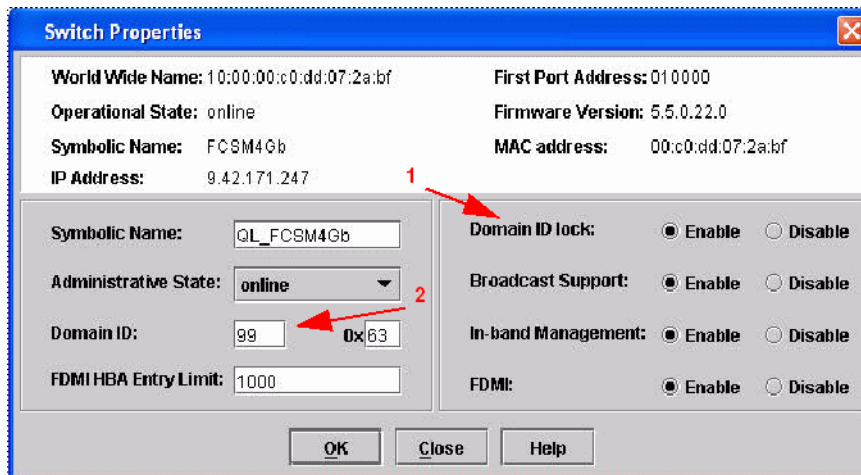

Figure 7-46 Switch Properties window
- From the Switch Properties dialog (Figure 7-46), enter a symbolic name for your switch. Click the **Enable** radio button next to Domain ID lock (1). Enter a Unique Domain ID ranging from 97-127 (2). In our example, we selected 99 for the DID. Click **OK** to continue.